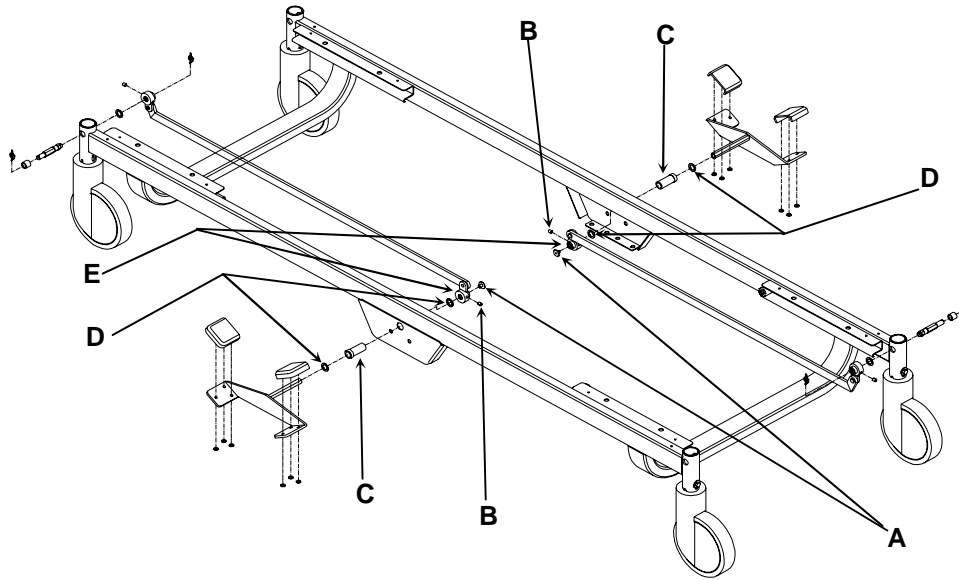

Figure 4.16
4. Remove the machine screw (**A**, fig. 4.16, page 47) located at the end of the right and left pedal shafts. Note that in prior versions (beds with serial number  $\leq$  C01340), the FL17E is equipped with protective caps instead of machine screws. If it is the case with your bed, remove the protective cap and proceed with step 5, disregarding the note that follows.
6. Using a 1/8" Allen key, remove the pressure screws (**B**, fig. 4.16, page 47) located on the head and foot locking levers (**E**, fig. 4.16, page 47).
4. Remove the machine screws (**A**, fig. 4.16, page 47) located at the end of the right and left pedal shafts. Note that in prior versions, the FL17E is equipped with protective caps instead of machine screws. If it is the case with your bed, remove the protective cap and proceed with step 5, disregarding the note that follows.
7. Remove both pedals completely. Remove the two pedal sleeves (**C**, fig. 4.16, page 47). Keep the four nylon washers (**D**, fig. 4.16, page 47).
Be sure to position the pedal horizontally (neutral) when inserting its shaft into the sockets of the locking levers (**E**, figure 4.16, page 47) and the 5th wheel activation lever (**J**).